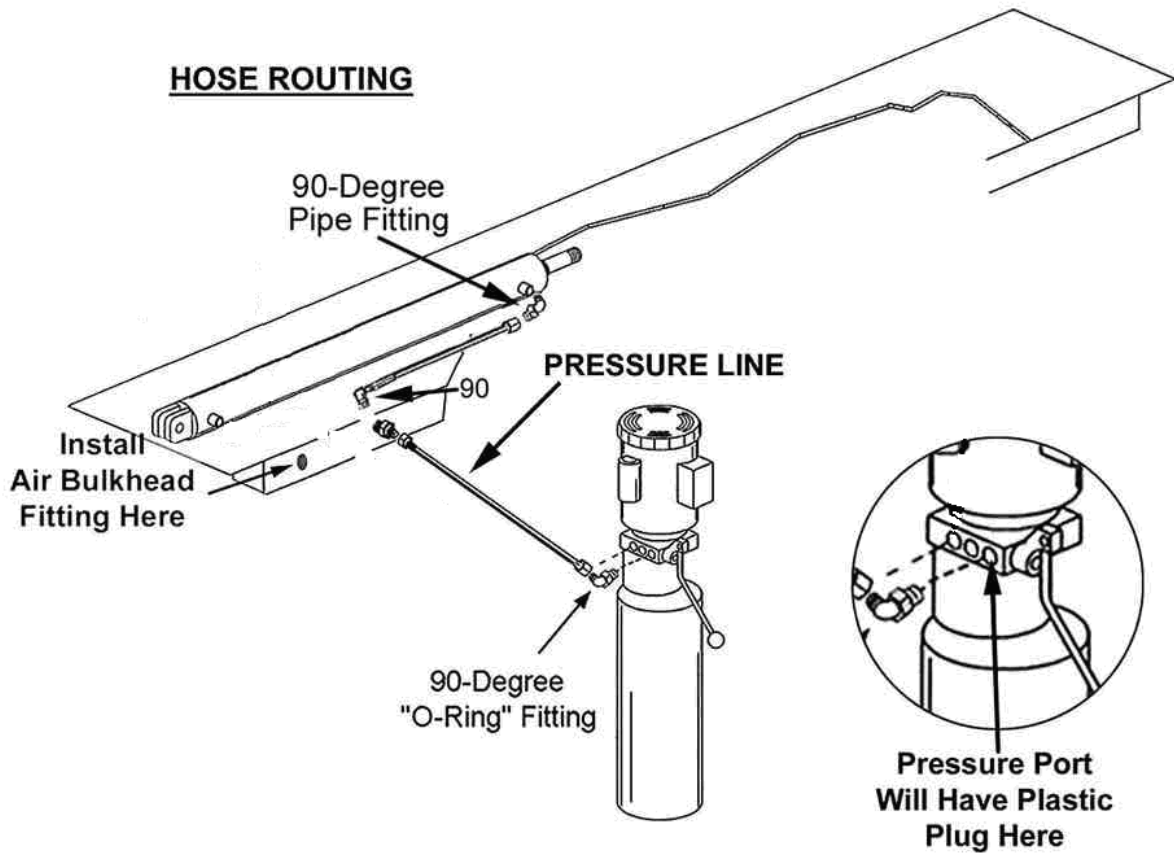

Fig. 12
4. Connect hydraulic hose as shown below making sure to first pass it through the retaining rings located the underside of the runway. **MAKE SURE HOSE IS KEPT CLEAR OF CABLES.** (See Fig. 12)